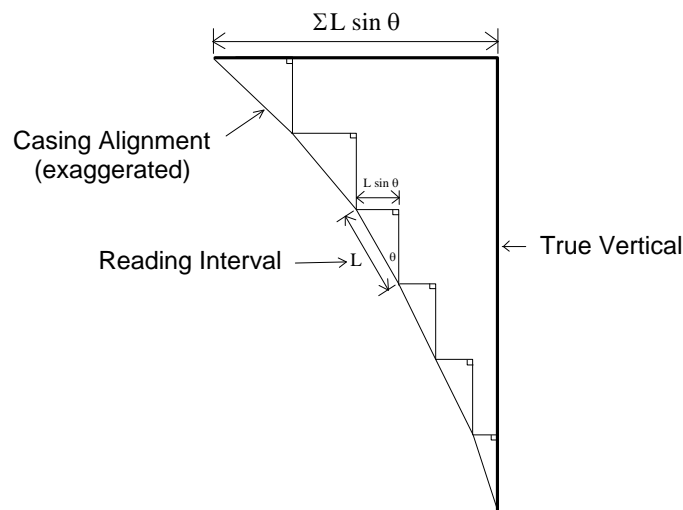

Figure 4. Inclinometer Survey Description
Subsequent surveys of the inclinometer casing, when compared with the original survey, will reveal any changes of inclination of the casing and the locations at which these changes are taking place. Analysis of the change of inclination ($L \sin \theta$) is best performed by computing the horizontal offset of the upper wheels relative to the lower wheels over the reading interval (L) of the survey (usually the wheel base of the probe, 2 feet for English systems, .5 meter for Metric). At each position of the inclinometer the two readings taken on each axis ($A+$, $A-$ and $B+$, $B-$) are subtracted from each other leaving a measure of $\sin \theta$. This value is then multiplied by the reading interval (L) and the appropriate factor to output horizontal deflection in engineering units (inches for English, centimeters or millimeters for Metric). These offsets are compared to the original survey offsets and then the differences accumulated to produce a deflection profile as shown in Figure 4.